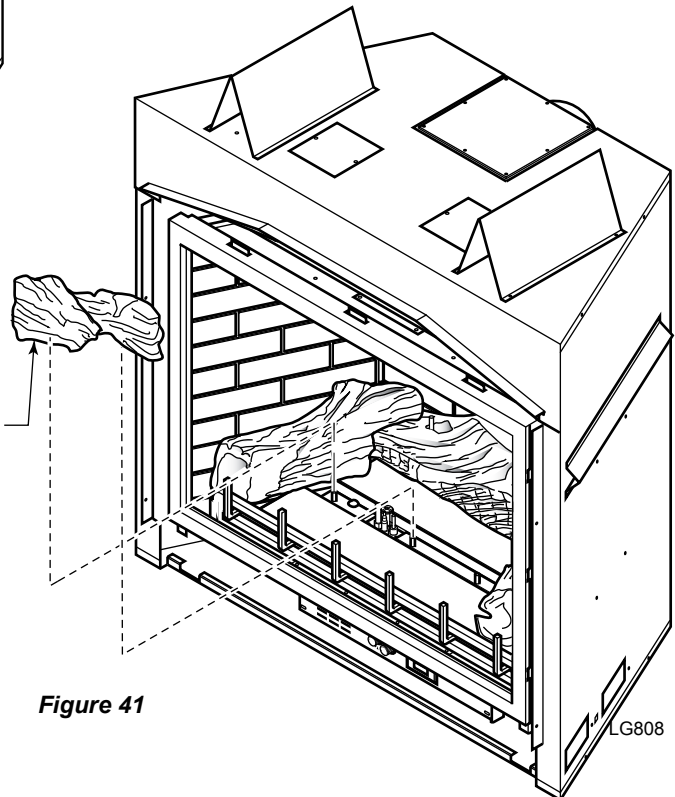

Figure 41
6. Place left mid log (#6) on two left pins on burner assembly. *Figure 41*